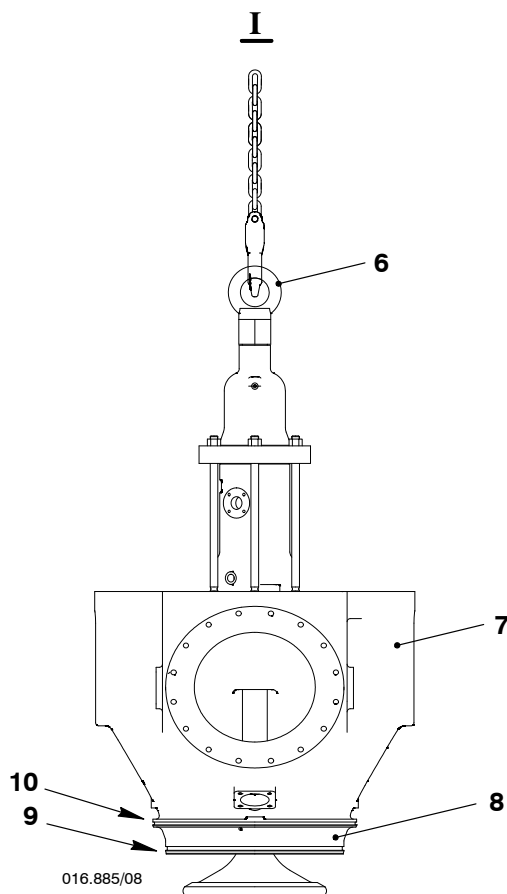

Fig. 2
- 3) Put the slings (94049A, Fig. 2) in position on the expansion piece (4) as shown.
- 6) Remove the 16 screws (5).
- 7) Remove the 16 nuts (3) and the bolts (2).
- 8) Move the expansion piece (4) to one side.
- 9) Lower the expansion piece (4) on to an applicable surface.
- 10) Attach the crane hook to the eye bolt (6).
- 10) Attach the lifting tool (94209) to the eye bolt (13, Fig. 2).